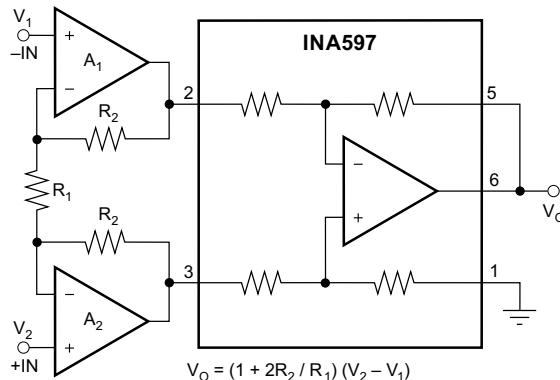
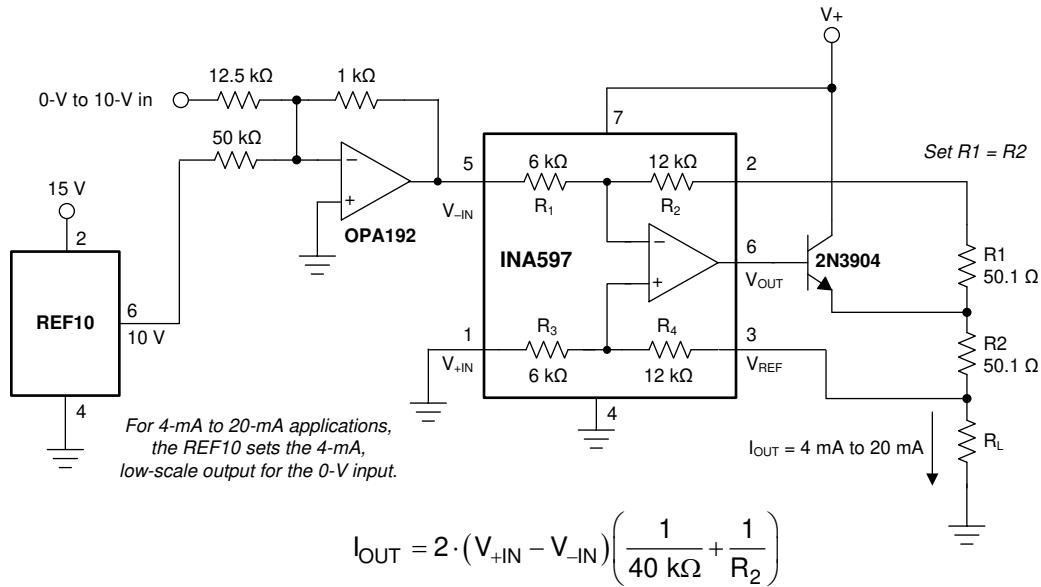

图 78. Precision Instrumentation Amplifier
图 82. Precision Voltage-to-Current Conversion
The INA597 measures voltages beyond the rails. For the $G = \frac{1}{2}$ and $G = 2$ difference amplifier configurations, see the input voltage range in the Specifications section for details. The INA597 can be configured in several ways; see 图 78 to 图 82. These configurations rely on the internal, matched resistors; therefore, all of these configurations have excellent gain accuracy and gain drift.
The INA597 can be combined with op amps to form a complete instrumentation amplifier (IA) with specialized performance characteristics, as shown in 图 78.